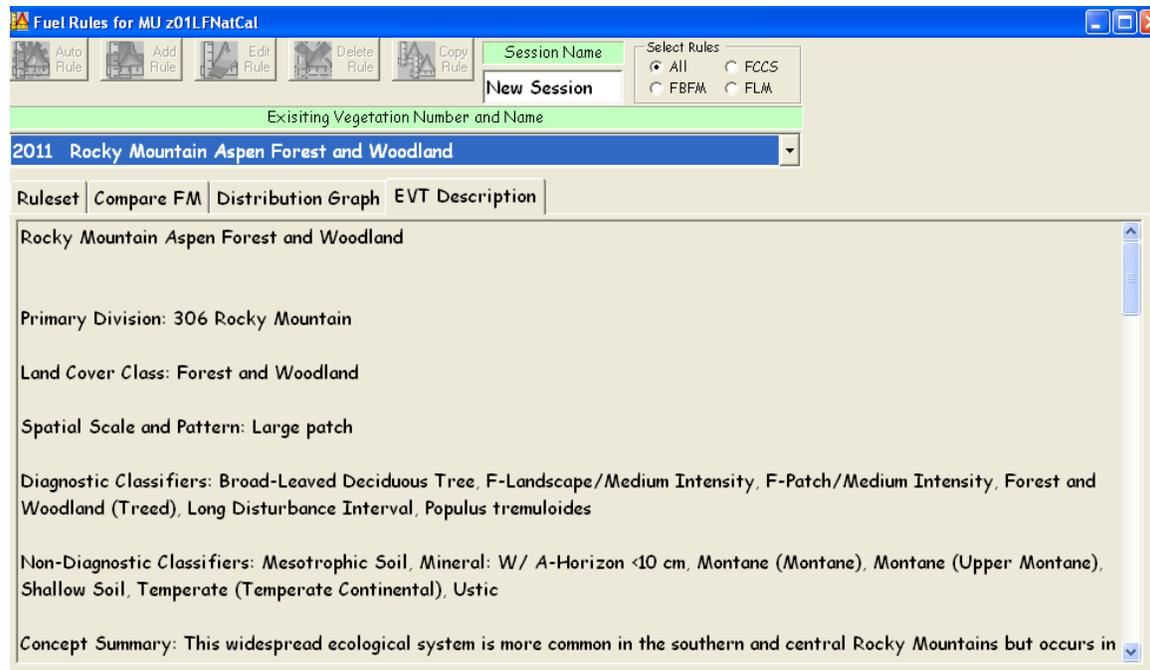

Figure 7-36. **EVT Description** page in **Fuel Rules** screen.
The **EVT Description** page provides a summary of the concepts behind the vegetation type determination (fig. 7-36). It provides a geographical range as well as information on scale, soil, climate, and species. This page can help with determination of cover and height by breakpoints for the Fuel Rules. Follow the steps listed below to work with this page.
- Use the **Existing Vegetation Number and Name** drop-down menu to view a specific description of the EVT you specified (fig. 7-36).